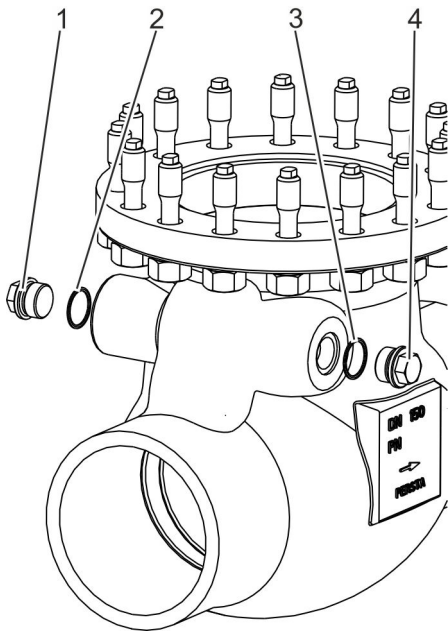

Fig. 31: Attaching the locking bolt and sealing elements
- 15.▶ Insert new sealing elements (Fig. 31/2 und 3) into the grooves in the body.
- 16.▶ Attach locking bolts (Fig. 31/1 und 4).